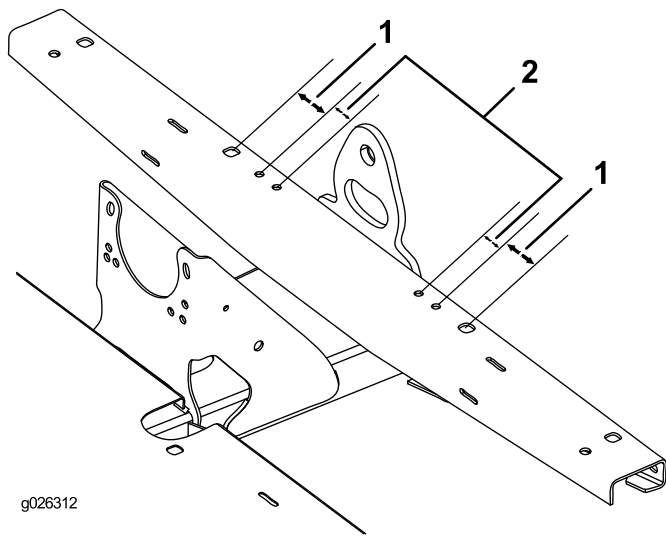

Figure 8
3. Using the dimensions shown in Figure 8, locate, mark, and drill 4 holes (3/8 inch) in the top of the frame channel.